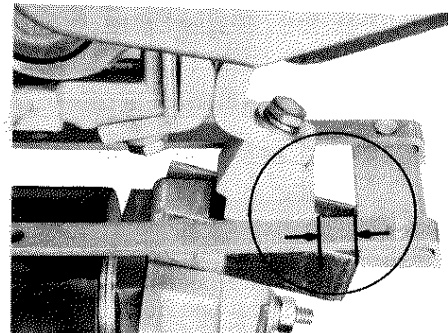

Figure 4
1. With all power removed, check that the mechanical interlock allows the contact arm (22) of either contactor to reach its limit of travel; either completely closed or completely open without binding.
2. Hold the contact arm of the left contactor fully closed and push closed the contact arm of the right contactor until stopped by the mechanical interlock. Check that there is a gap of at least 1/32" but not more than 1/16" between the inside edge of the stop bracket (44) and the back surface of the auxiliary arm (13) (Fig. 4).